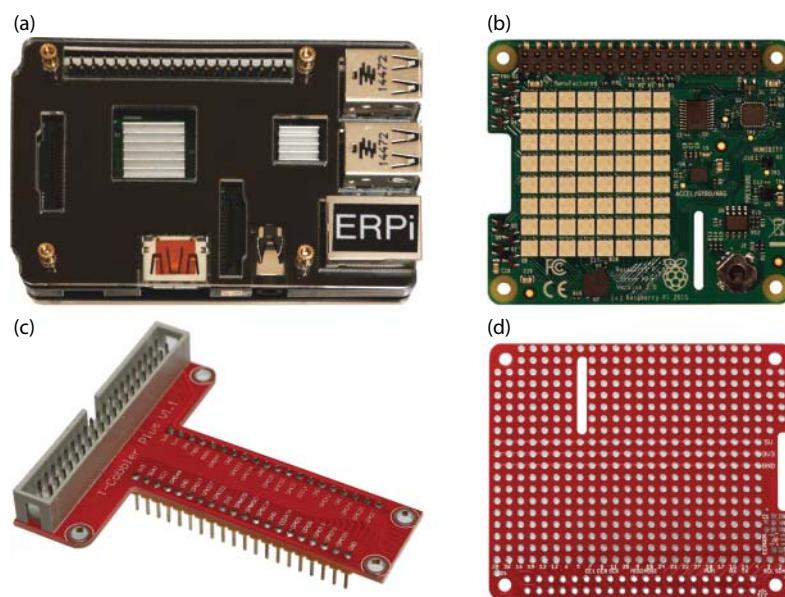

Figure 1-10: RPi Accessories: (a) An example case; (b) The Sense HAT; (c) The T-Cobbler board; and (d) A prototyping HAT
Many different cases are available for protecting your RPi, including the one illustrated in Figure 1-10(a) (\$6). Cases are useful for protecting the RPi from accidental short circuits (e.g., placing the RPi on a metal surface), but they do
Figure 1-10(b) illustrates the RPi Sense HAT (\$35). It contains an: 8×8 LED matrix display, accelerometer, gyroscope, magnetometer, air pressure sensor, temperature sensor, humidity sensor, and a small joystick. Figure 1-10(d) illustrates a low-cost blank prototyping HAT that can be used to design your own HAT, which includes space on the bottom right for a surface-mounted EEPROM that can be used to identify the HAT to the RPi.
An alternative to designing your own HAT is to use the T-Cobbler board as illustrated in Figure 1-10(c) to break out the RPi GPIO header to a breadboard using a 40-pin ribbon cable, which is available with the T-Cobbler. This sits neatly into a prototyping breadboard (see Chapter 4), providing clear pin labels for all of the RPi GPIO pins.
- Do not place a powered RPi on metal surfaces (e.g., aluminum-finish computers) or on worktops with stray/cut-off wire segments, resistors, etc. If you short the pins underneath the GPIO header, you can easily destroy your board. You can buy a case such as that in Figure 1-10(a). Alternatively, you can attach small self-adhesive rubber feet to the bottom of the RPi.
- Carefully check the pin numbers that you are using. There are 40 pins on the GPIO header, and it is very easy to plug into header connector 21 instead of 19. The T-Cobbler board in Figure 1-10(c) is very useful for interconnecting the RPi to a breadboard, and it is highly recommended for prototyping work.